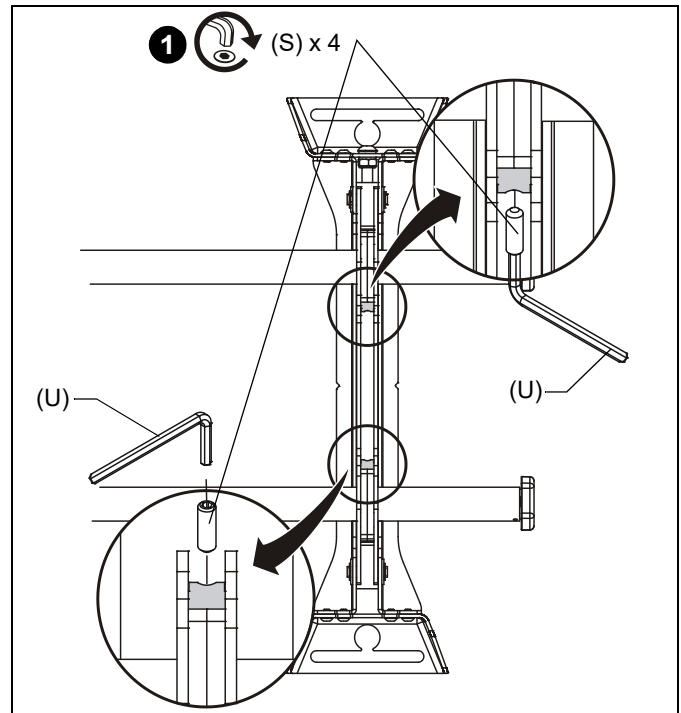

Figure 4
1. Lock rails into place using two 1/4-20 x 3/4" set screws (S) on mount upright (Y) and the 1/8" hex key (U). (See Figure 4)